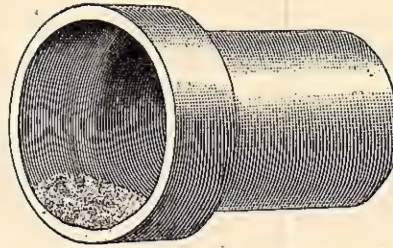
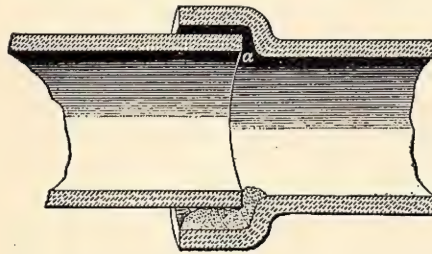

FIG. 27
FIG. 28
43. To make good joints in earthenware pipes, place some cement (half Portland cement and half clean sand) in the bottom of the socket, as shown in Fig. 27. Then enter the spigot end of the pipe about to be laid into the socket, as shown in Fig. 28. When the spigot end is pushed hard against the socket shoulder at *a*, let it down on the cement. Beat it down gently with a wooden tool, the hammer handle, for instance, until it is in the center of the socket. This presses the superfluous cement out of the socket and insures the bottom, which is the most important part of such a joint, being tight. The